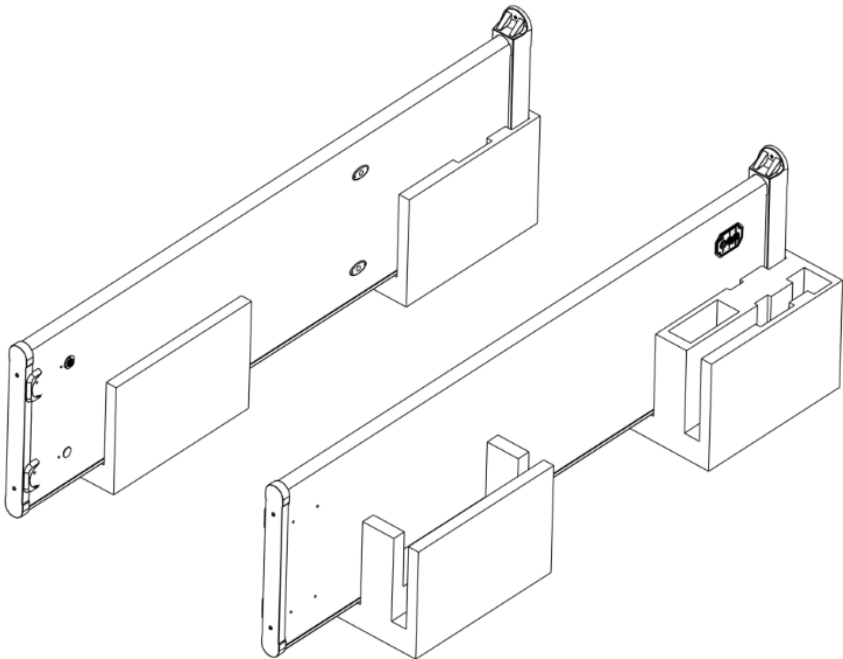

Figure 3-1
Step 1: Open the package, and then place the left and right door panels on the ground in the direction shown in the figure 3-1 below. Pay attention to distinguish the left, right and direction of the door panel (the signal line interface faces upward and inward).